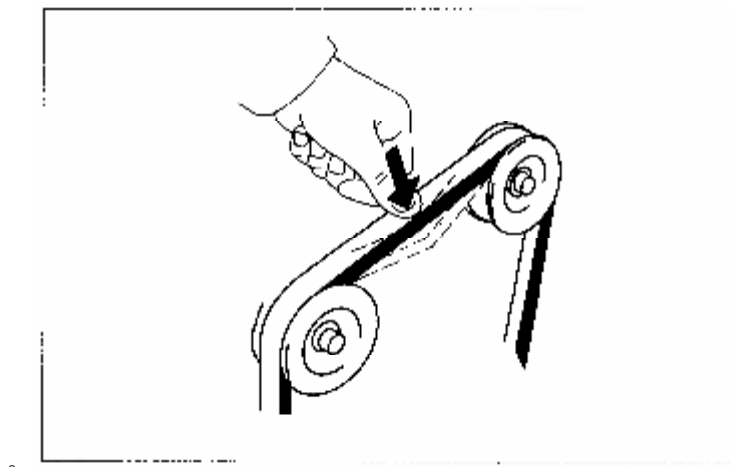

Figure 5-11 Check and adjust fan belt tension
5.7.3 Check fan belt tension. Press down with thumb (70~80N) the belt at the point between water pump and alternator (see fig.5-11). Its correct deflection is 7~8mm.